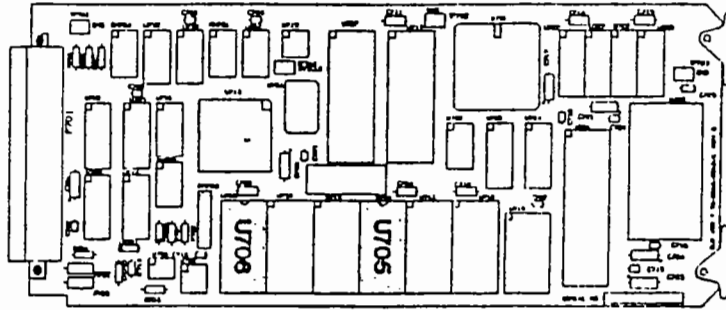

Figure 3 Digital Board.
- b) Install new software on the Digital Board by identifying EPROMs U705 and U706. Replace these with the version 3.21 EPROMs which bear the same reference designators. All new EPROMs will also have WX-1000+ printed on them. Correct orientation of these EPROMs is with the key toward the center of the circuit card. Reference Figure 3.